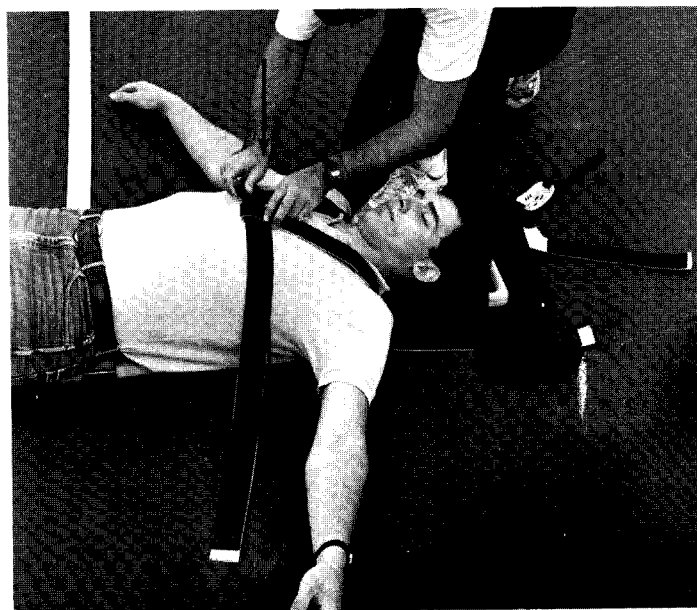

Figure 3.2
3.3 Position the shoulder straps based on anatomical considerations and the condition of the victim's chest. (Figure 3.2)